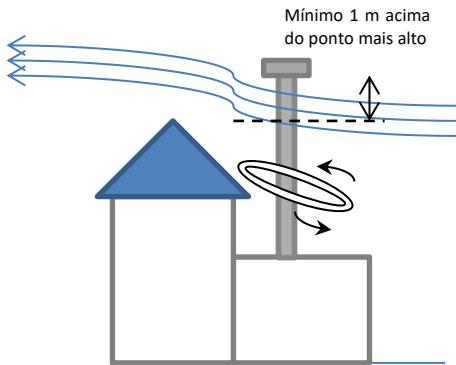

Figure 31 – Correct chimney height
- * Keep any combustible materials away from this appliance. For safety reasons, you should maintain a minimum clearance distance around the unit of 20 cm from the back, 30 cm from the sides and 120 cm from the front (Fig.31);